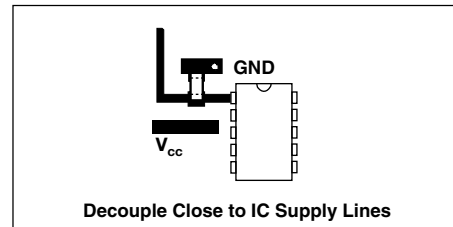

Fig. 12
- Decouple close to chip supply lines, to reduce component noise and power line transients. (Fig. 12)